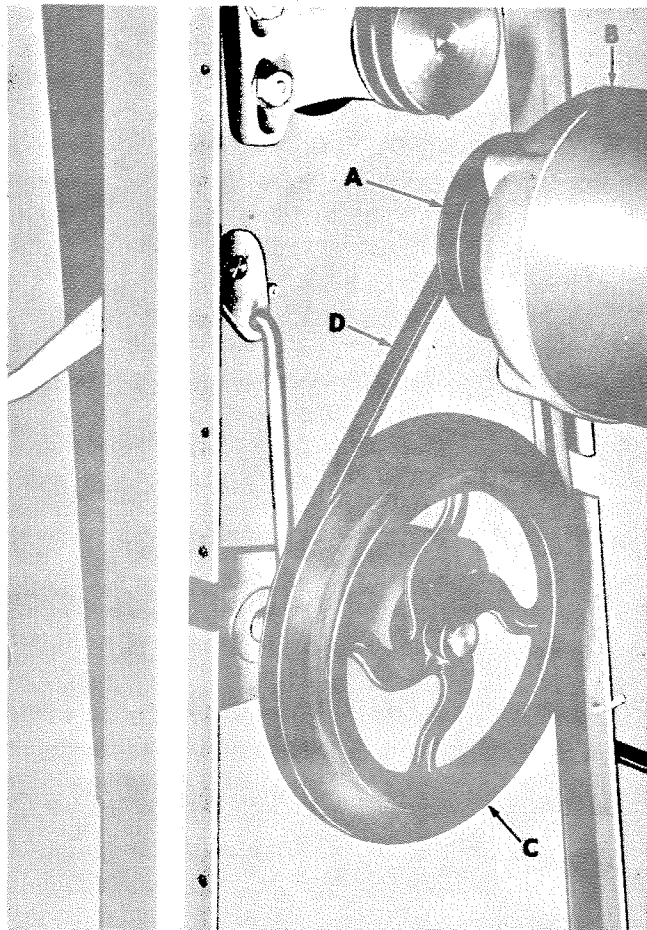

FIGURE 3
5. Mount motor (B, Fig. 3) to INSIDE BACK PANEL OF CABINET by sliding mounting bolts thru slots (C, Fig. 1) in back of cabinet. Hold motor in position with wooden block. Go around to back of cabinet and start hex nuts on mounting bolts -- DO NOT TIGHTEN securely.
6. Move motor pulley (A, Fig. 3) on the shaft until it aligns with countershaft pulley (C) -- tighten set screw securely.
7. Place belt (D) on motor and countershaft pulleys.